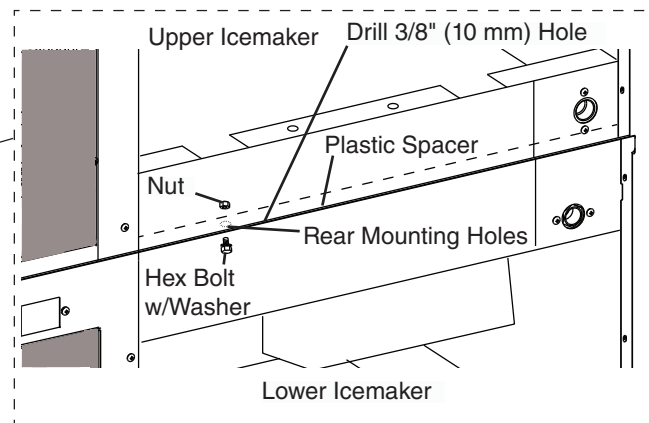

**Fig. 8**
- 16) Place the new ice chute provided in this kit in position as shown in Fig. 8. Secure the rear of the ice chute to the upper icemaker rear rail frame (bin control mounting bracket holes) with the new thumbscrews provided in this kit. Secure front of the ice chute to the upper icemaker front rail frame (cube guide mounting hole) with the cube guide thumbscrew removed in step 13. Confirm that the front of the ice chute clips over the front rail frame of the upper icemaker and that the drain pan is not sitting on top of the ice chute. **NOTICE! Confirm the drain pan is not sitting on top of the new ice chute.**